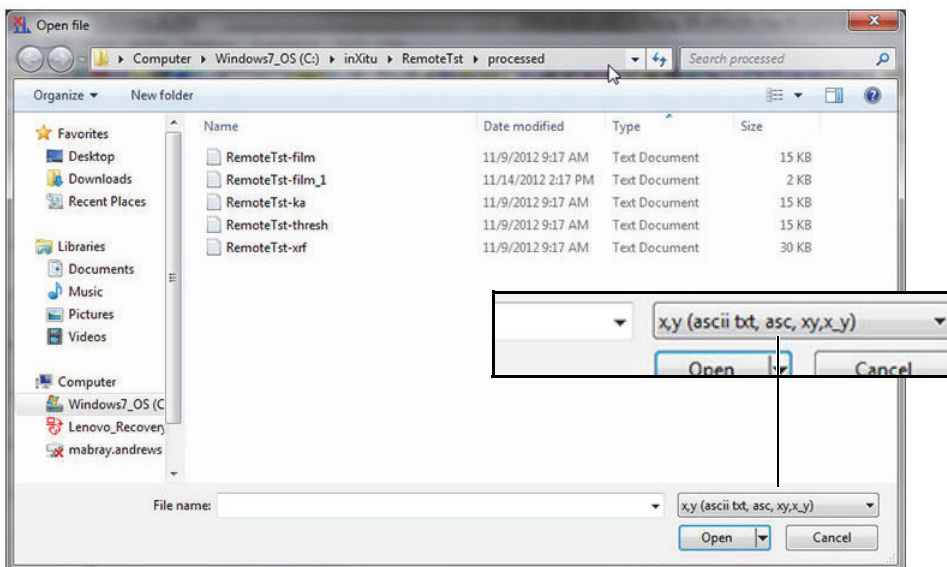

Figure C-3 Open File dialog box
2. In the file type list change the file type to **x,y (ascii.txt, asc, xy,x_y)** [see Figure C-3 on page 90].